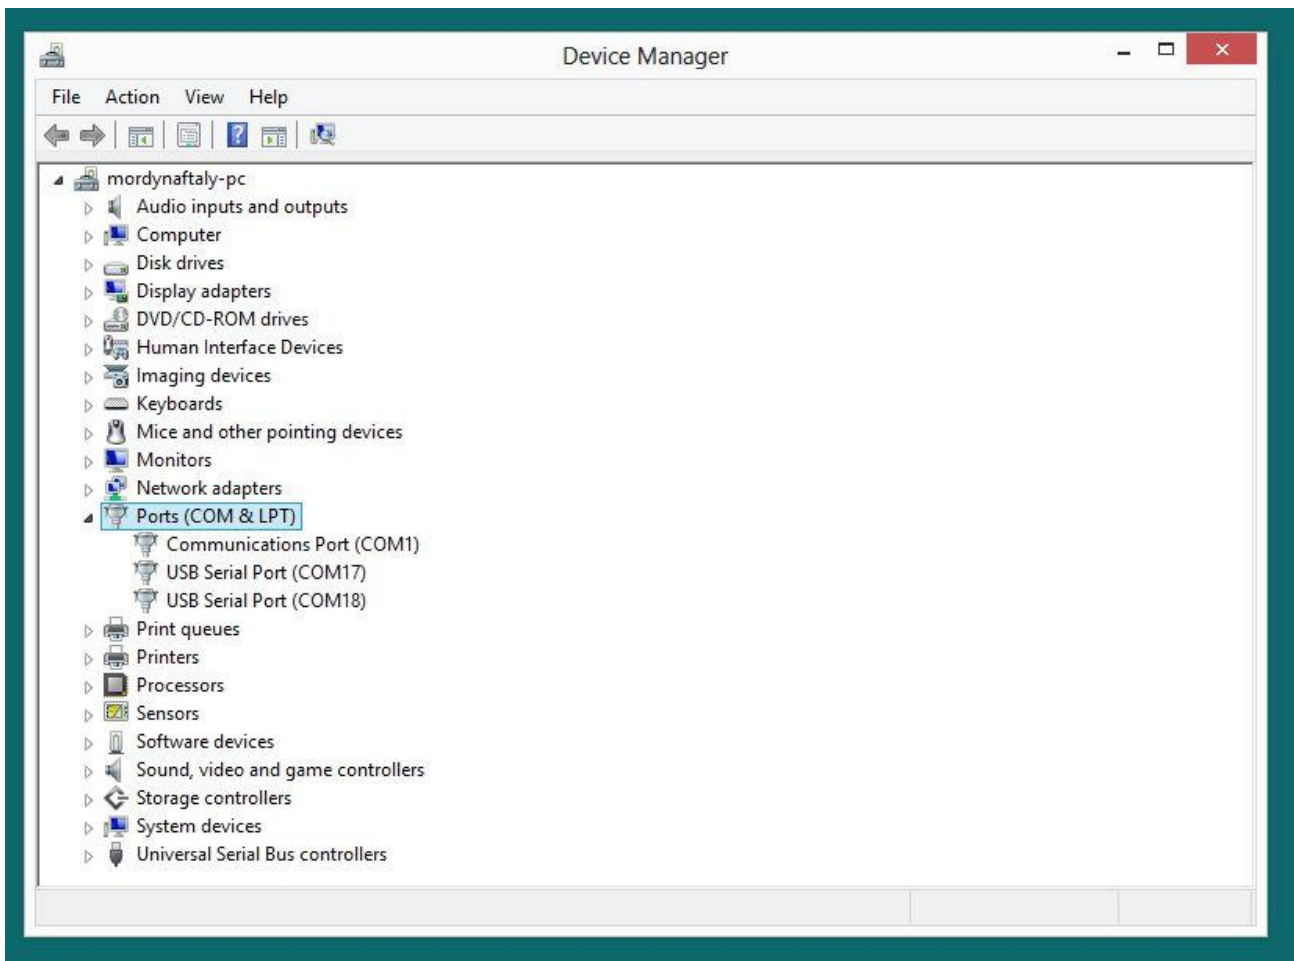

FIGURE 4.30 – CONTROL PANEL – PORTS ASSIGNMENTS
2) Determine which COM ports you are using. The ports list of the device manager of control panel will show you the used COM ports. (SEE FIGURE 4.30).